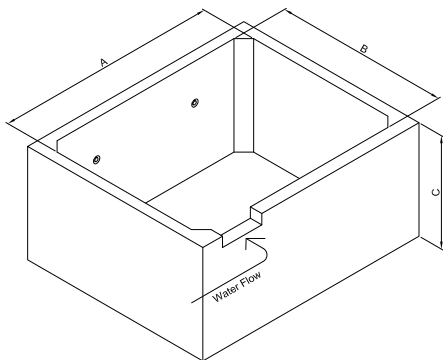
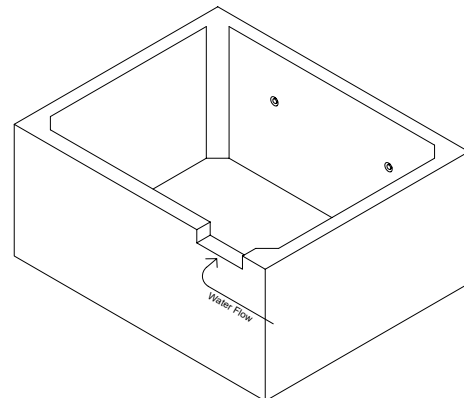

FIG. 2 Left hand standard
FIG. 3 Right hand standard
*The letter L at the end refers to a left hand opening (Figure 2) and R for a right hand opening (Figure 3)